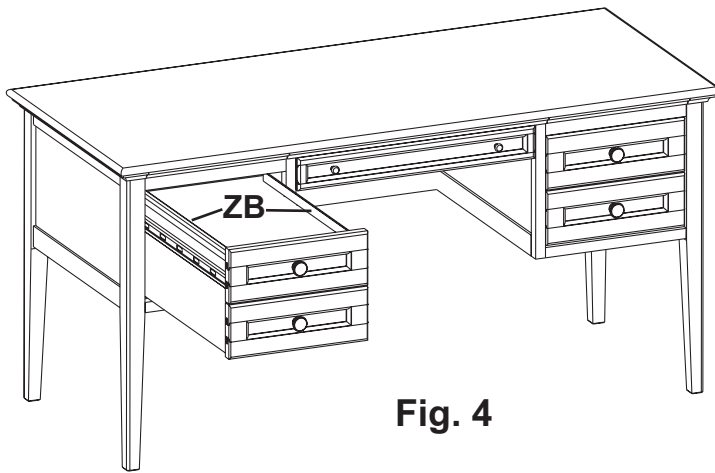
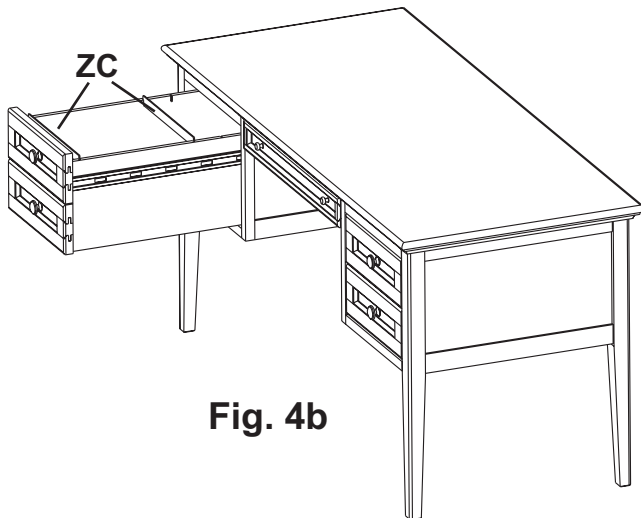

Fig. 4
Fig. 4b
4. Hang your letter-sized hanging folders either parallel or perpendicular to the front of the drawer. Legal-sized folders must hang perpendicularly. If you do not hang your files perpendicularly, store the Aluminum File Rails (ZC) to use in the future.
To hang your files perpendicularly, remove the Plastic File Rails (ZB). See Figures 4 and 4a. There are slots on the sides of the drawers. Insert an Aluminum File Rail (ZC) into the slots nearest to the Drawer Face (F). Insert another Aluminum File Rail (ZC) into the second set of notches for letter-sized folders or the third set of notches to hang legal-sized folders. See Figures 4b and 4c.